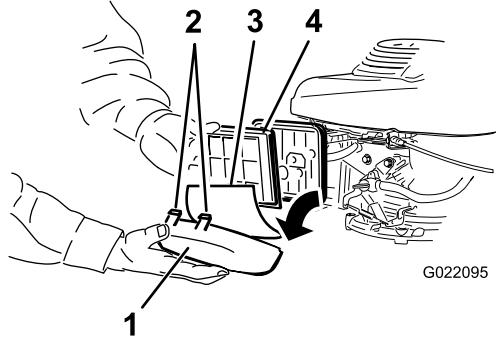

Figure 25
4. Remove the cover, and remove the foam pre-cleaner from the cover (Figure 25).
6. Remove and inspect the paper filter (Figure 25).
7. Install the foam pre-cleaner into the air-cleaner cover (Figure 25).